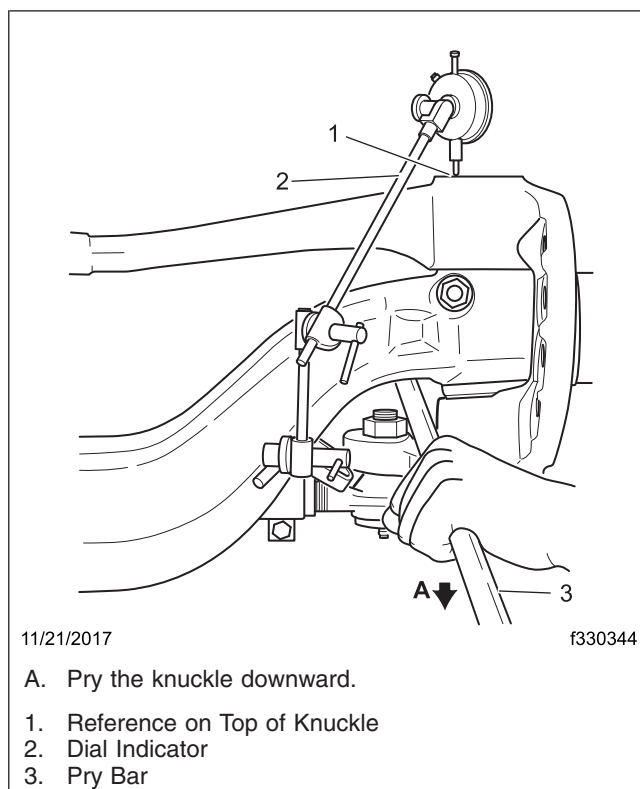

Fig. 21, Dial Indicator Mounted
27. Mount the dial indicator on the steer beam and reference the top of the knuckle. Zero the dial indicator. See Fig. 21.